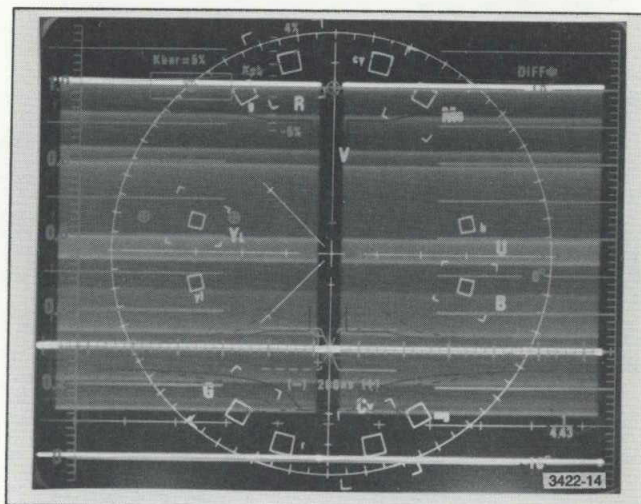

Fig. 3-15. 2 Field Display.
**Field Rate Display (Fig. 3-15)**